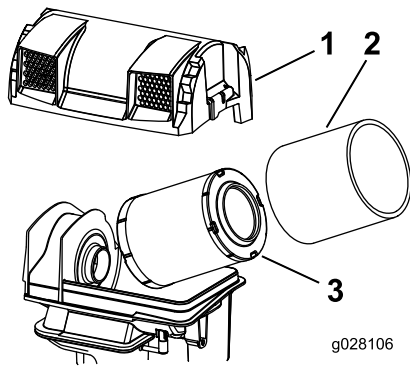

Figure 24
3. Remove the foam and paper elements (Figure 24).
4. Remove the foam element from the paper element (Figure 24).
2. Install the elements onto the air-cleaner base (Figure 24).